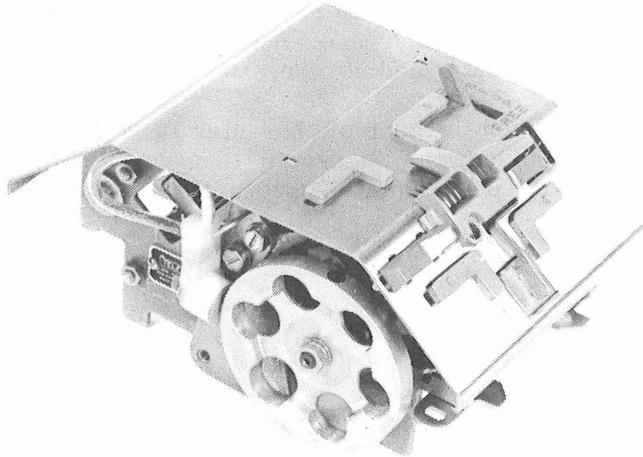

Figure 4 - Tape Reader
(2) Tape Reader: This electromechanical sending unit senses fully perforated 8-level tape. It is equipped with a manual control lever, the reader step feature, and tight-tape and tape-out alarm sensors. Refer to Figure 4 and Table C.
(3) Motor Units: Separate synchronous-type motor units provide the power for operating the reperforator and tape reader.
(4) Electrical Service Unit: Provides the electronic circuitry for operating the reperforator and tape reader. It intercon-